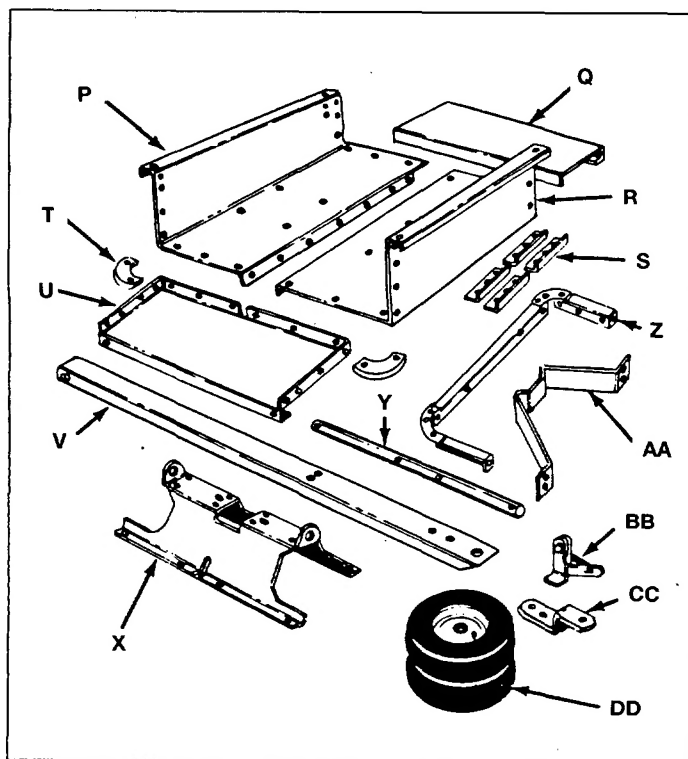

Fig. 2
Losse onderdelen (zie fig. 2)
2. Lay out all the parts as shown in figure 2.